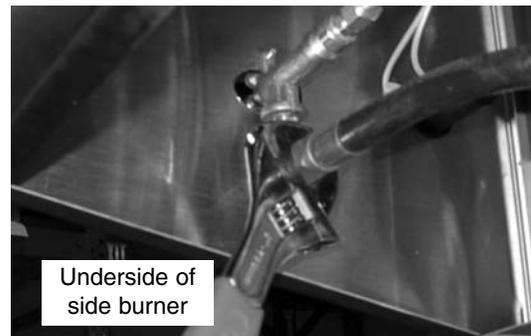

Fig 45
11. Connect the end of the new gas supply hose to the side burner valve assembly (Fig. 45).